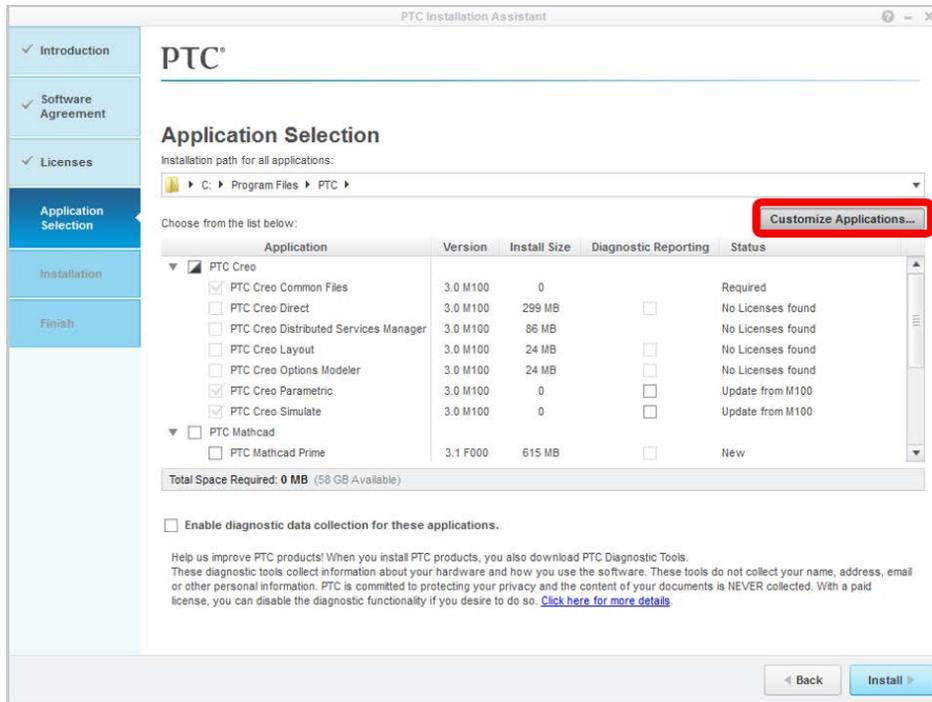

Fig. 30 When you reach the Application Selection stage of Creo Parametric installation, locate the Customize Applications button
- Ensure you install the development library—by default, it is not enabled for installation in Creo Parametric 3 (See Figs. 30 and 31).